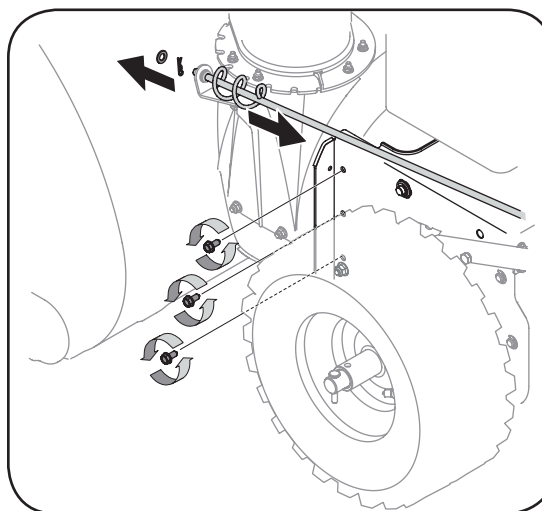

Figure 6-8
1. Disconnect the chute crank assembly at the discharge chute end by removing the hairpin clip and the flat washer. See Figure 6-8.
7. From both sides of the the frame assembly, use a 1/2" wrench to remove the three hex tap screws securing the frame to the auger housing assembly. See Figure 6-8.